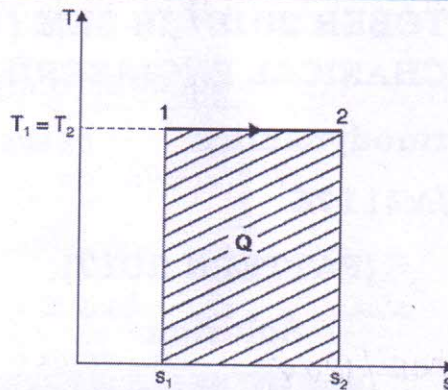

Fig. 5.27. T - s diagram : Isothermal process.
b)	<p>An isothermal expansion 1-2 at constant temperature T is shown in Fig. 5.27.</p> <p>Entropy changes from s_1 to s_2 when gas absorbs heat during expansion. The heat taken by the gas is given by the area under the line 1-2 which also represents the work done during expansion. In other words, $Q = W$.</p> <p>But $Q = \int_{s_1}^{s_2} T ds = T(s_2 - s_1)$</p> <p>and $W = p_1 v_1 \log_e \frac{v_2}{v_1} = RT_1 \log_e \frac{v_2}{v_1}$ per kg of gas [$\because p_1 v_1 = RT_1$]</p>